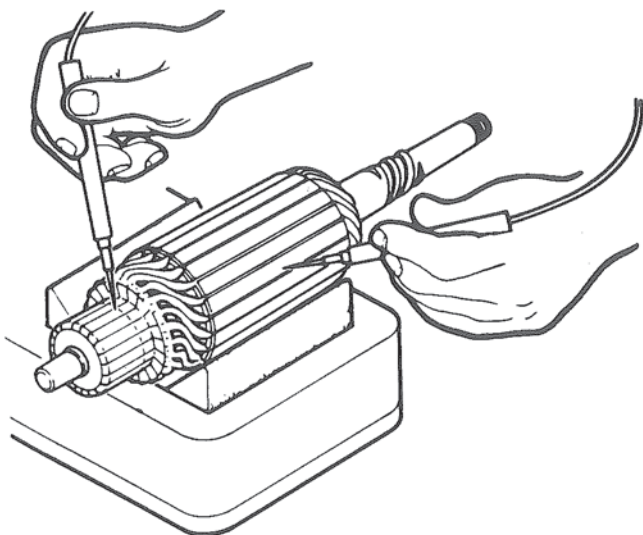

Figure 6. Armature Ground Test.
- A. Place armature in growler jaws and turn power switch to TEST position. Figure 6.